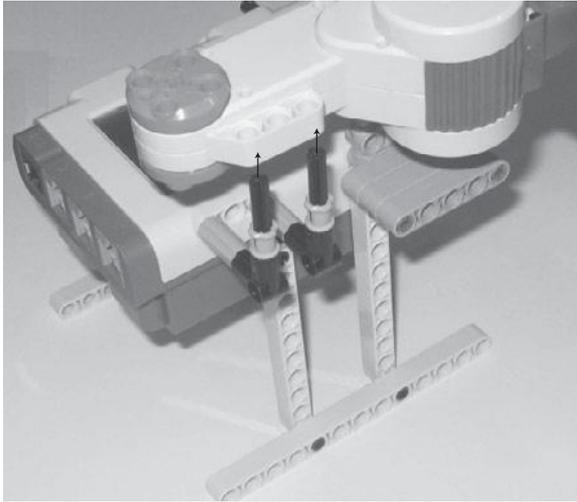

Figure 12.15
Step 2: As you attach the servo motor to the 3M pegged block, make sure you also connect the servo motor to the two support struts, as shown in Figure 12.15.